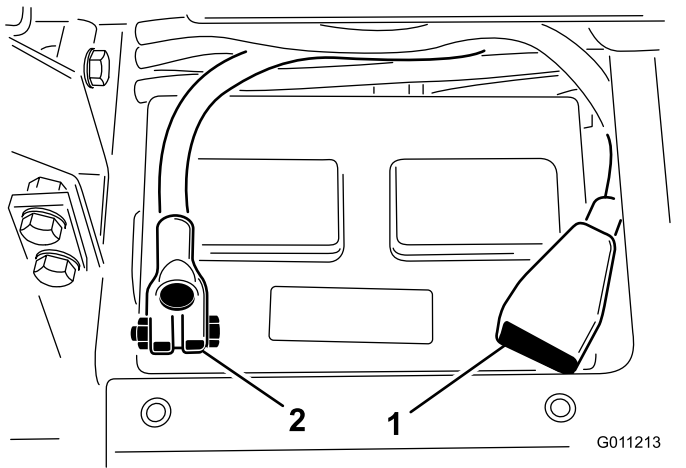

Figure 5
8. Install the positive cable (red) to the positive (+) terminal and the negative cable (black) to the negative (-) terminal of the battery and secure them with bolts and nuts (Figure 5). Make sure that the positive (+) terminal is all of the way onto the post and the cable is positioned snug to the battery. The cable must not contact the battery cover.